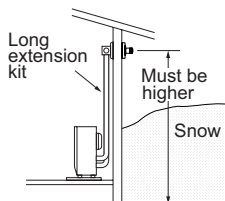

Fig. 1 (side view)
- DO NOT install the Balanced Flue where the air **supply** or **exhaust** gas outlet might become covered by snowdrifts, fouled by outdoor debris, sand or directly exposed to winds over 50 kp/h see Fig. 1 & 2 below and Fig 2 & 3 Page 18.